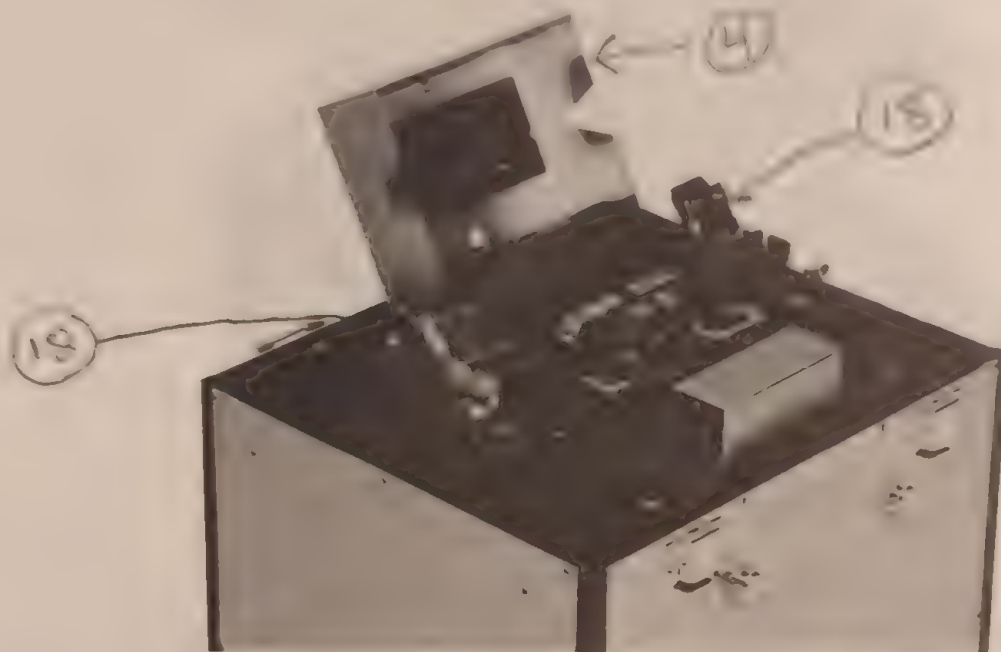

Fig. 14 Opening the Wind Protector
- (1) Cleave the optical fibers to be spliced.
- (2) Rotate down the right and left proof tester dials.
- (3) Open the wind protector ④ and both chucks of proof tester ⑮. (Refer to Fig. 14)